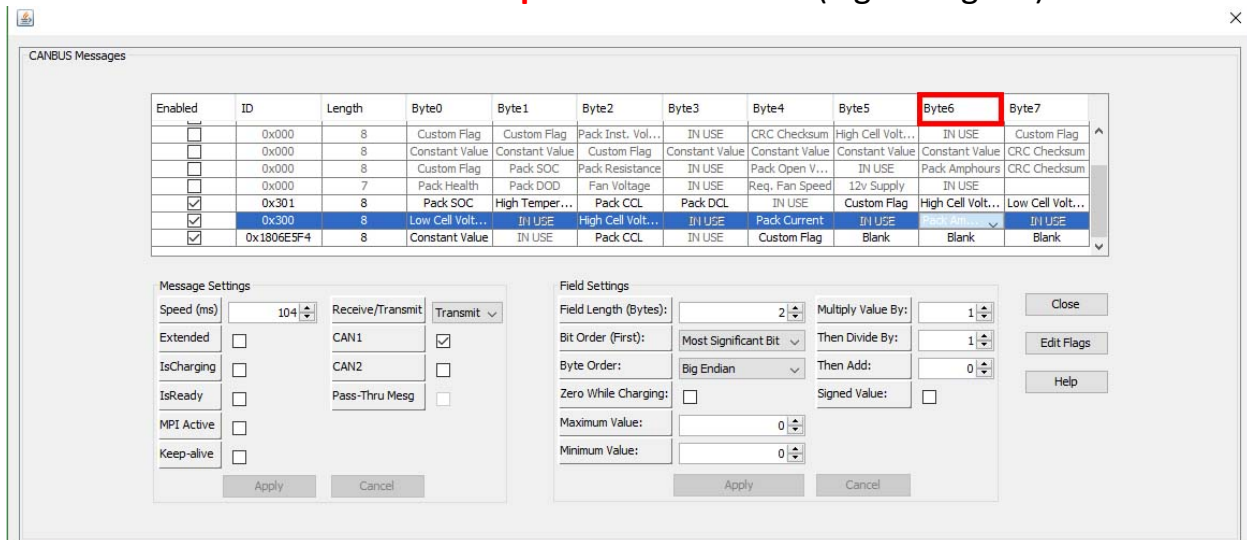
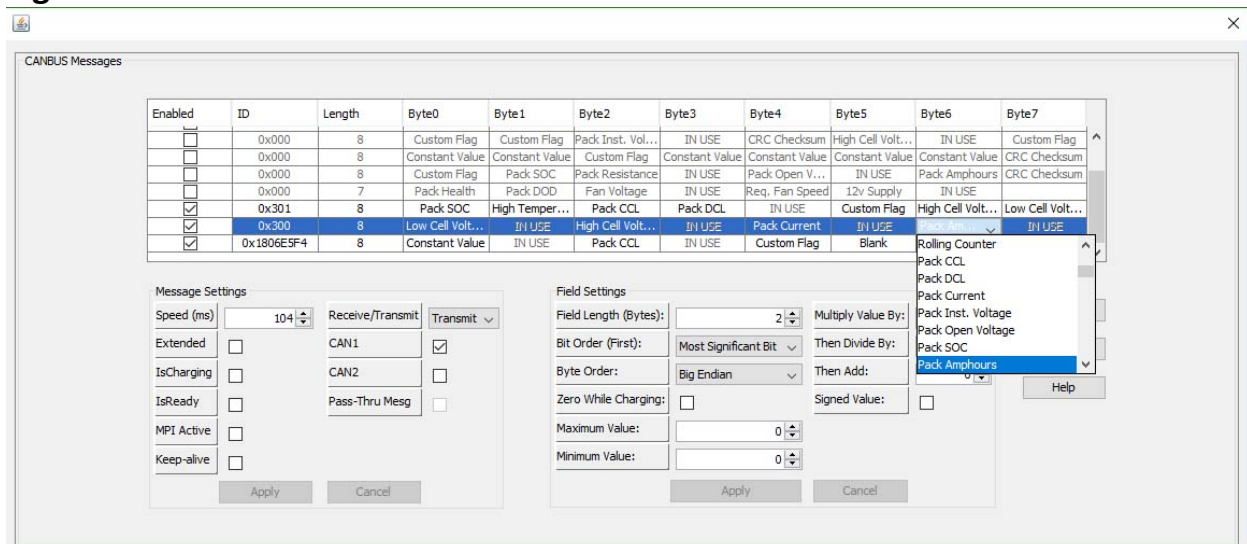

Fig. 15
Fig. 16
- The following is the settings for **Pack AmpHours**. The Bytes used are Byte6 and Byte7 in message 0x300. In the dropdown menu for Byte6 make sure that **Pack AmpHours** is selected. (Fig. 15 Fig. 16)